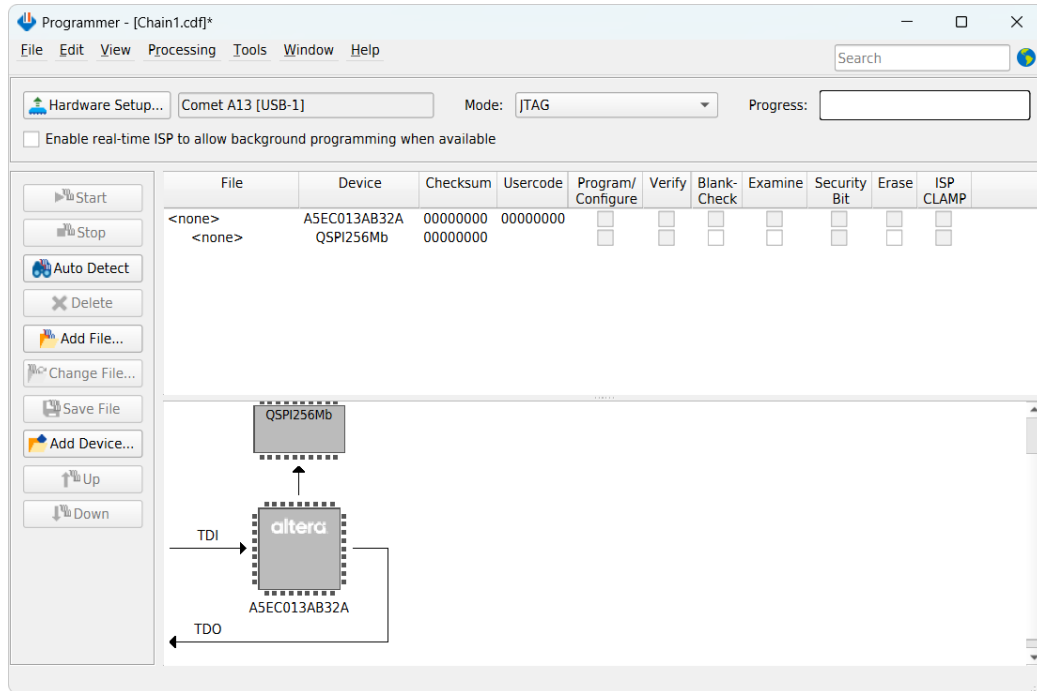

Figure 4-5 JTAG Chain on Comet A13 evaluation kit
- The FPGA device and QSPI flash of Comet A13 evaluation kit are detected under Programmer, as shown in **Figure 4-5**. Note :The user will see the **QSPI flash** on the JTAG chain because the FPGA configuration mode is set to **AS** mode.